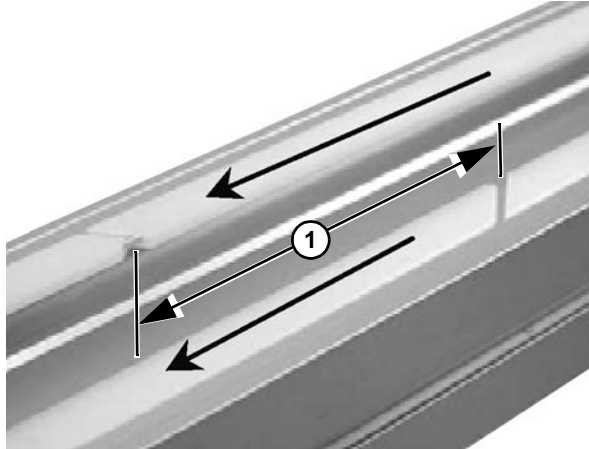

Figure 40
3. Do not place two wear strip joints opposite each other. Make sure there is a distance of at least 4" (**Figure 40, item 1**) between them to make the chain run smoother. This does not apply to a wear strip that begins by an idler unit or after a drive tail, where joints are always parallel.